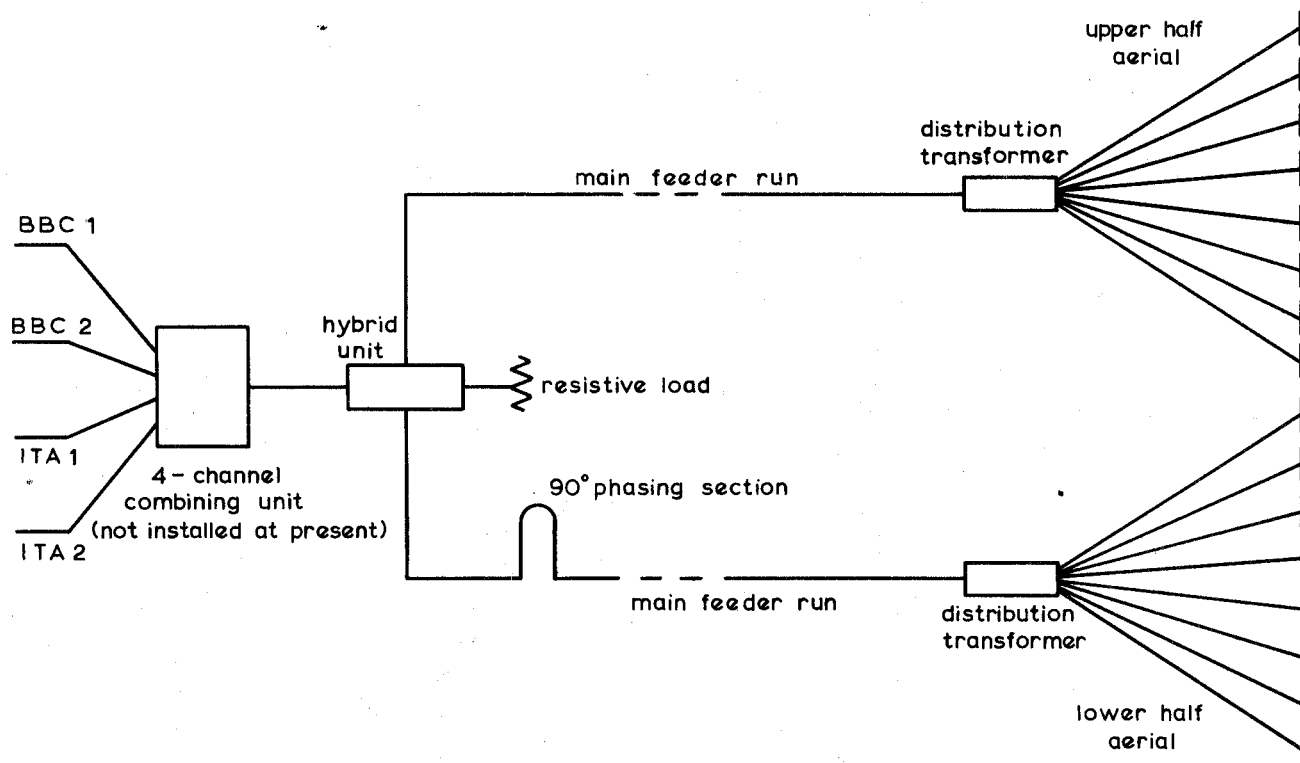

Fig.3. Schematic of feeding arrangement for transmitting aerial.
- Feeders:** The feeding arrangement is shown schematically in Fig. 3. The halves of the aerial are fed through separate main feeders type Hackethal HF 1 5/8 in. (50 ohm). Distribution feeders type UR67 connect the dipoles to 8-way transformers mounted at the base of the aerial.